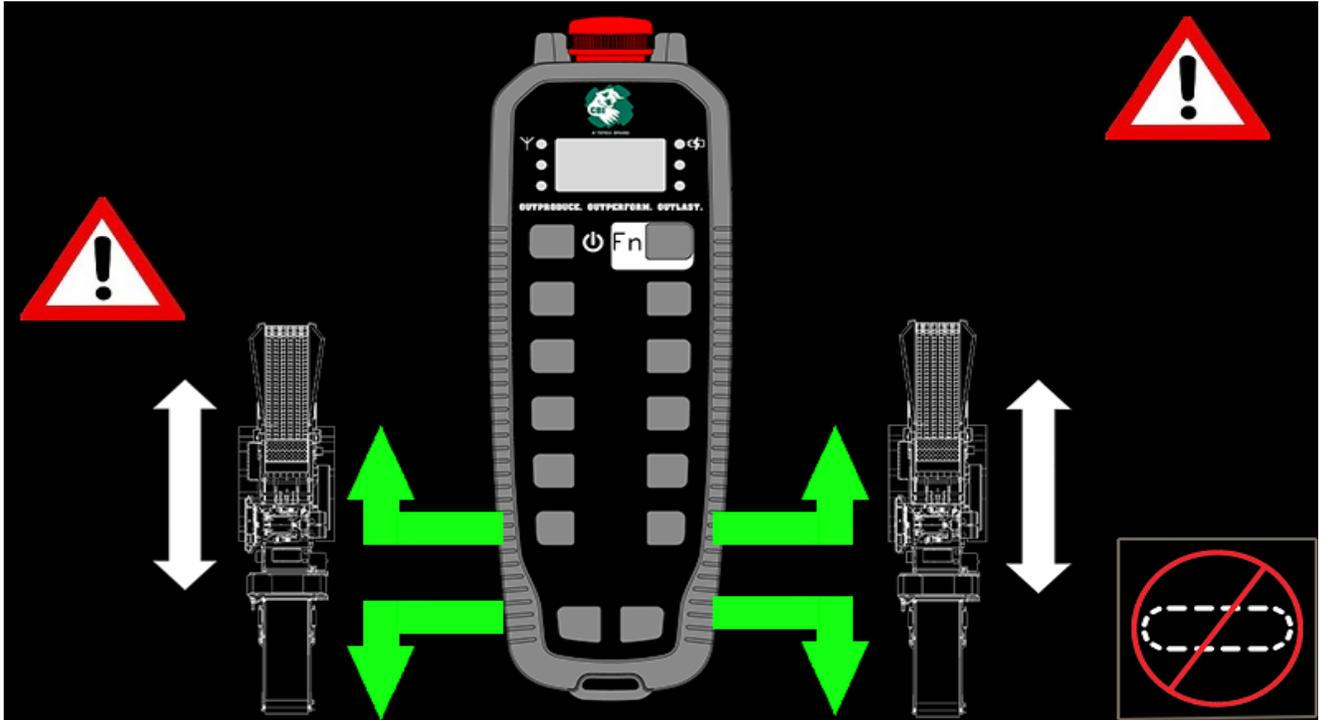

Figure 5.8 - Move Tracks
9. Once the remote is in TRACK MODE, use the bottom four buttons to move the machine. (Figure 5.8).
10. Once the machine is in the desired position, press the DISABLE TRACK MODE button in the bottom right corner of the screen (Figure 5.8).